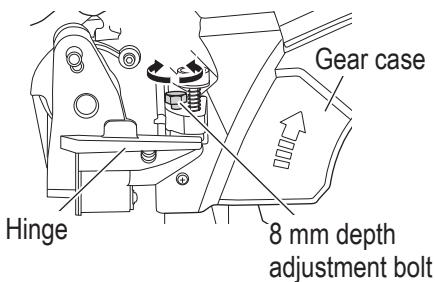

Fig. 10
To adjust the lower limit position of the saw blade, follow the procedure (1) indicated below. (Fig. 10)
(1) Turn the 8 mm depth adjustment bolt, change the height where the bolt head and the hinge contacts, and adjust the lower limit position of the saw blade.